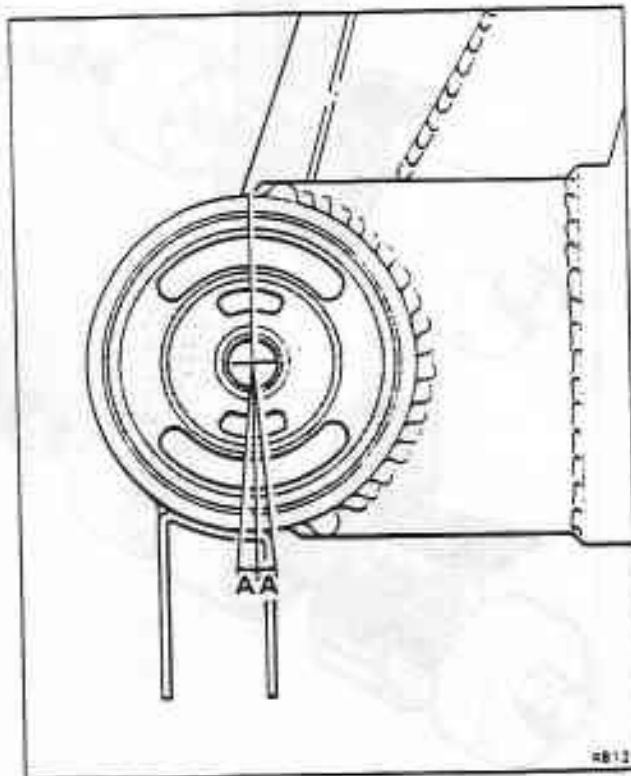

Fig. H8-1 Rear crossmember mount alignment
13. Locate a new mount in position on the crossmember. Fit tool RH9291 using the insertion components. Ensure that the slots in the rubber of the mount are positioned as shown in figure H8-1.